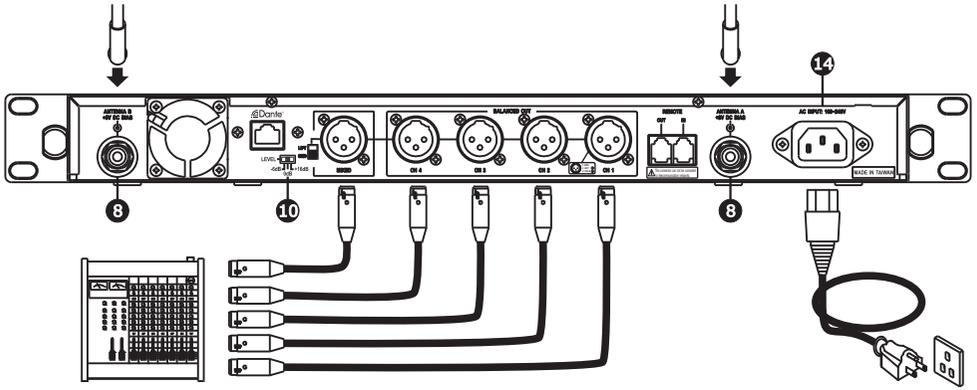

Fig. 3
1. Connect an antenna to each antenna connector 8 on the rear panel, Fig. 3.
- (A) Connect the power cord to the optional AC power input socket 14 and plug the other end into an AC 100~240V power source, Fig. 3.